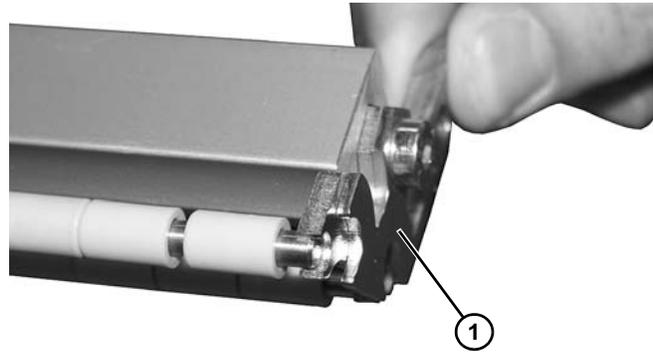

Figure 107
6. Remove outer and inner end plate (**Figure 107, item 1**).